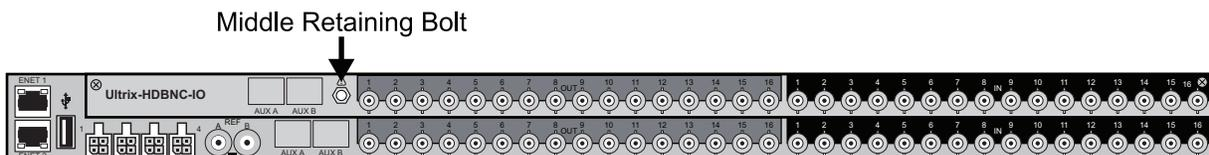

Figure 3 Ultrix Rear Panel — Location of Middle Retaining Bolt on the I/O Board
3. From the Ultrix rear panel, unfasten the Middle Retaining Bolt. Note that this bolt is not removable. Refer to **Figure 3** for the bolt location on the rear panel.